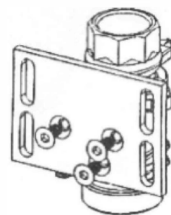

FIGURE 2
Attach a boss mounted emergency shut-off valve to the valve mounting plate provided with the stabilizer bar kit using (3) countersunk cap screws (Figure 2).